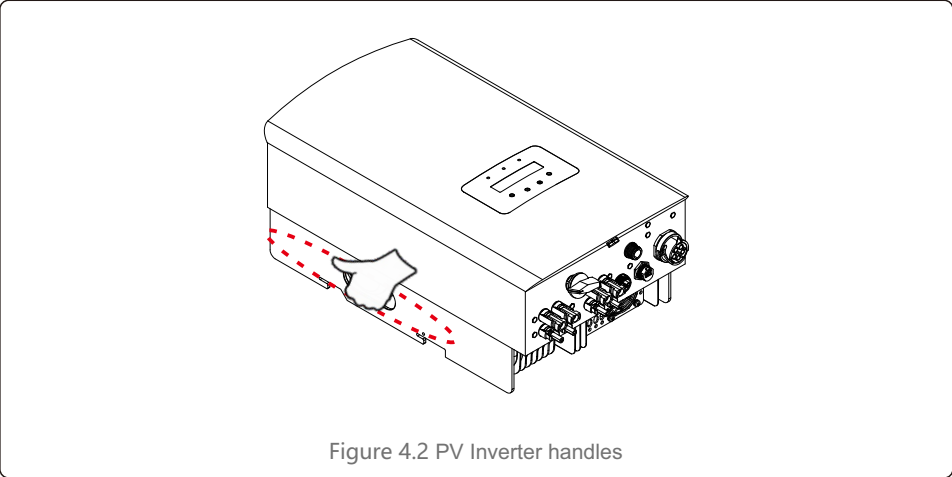

Figure 4.2 PV Inverter handles
- 2.Open the carton, then handle both sides of PV Inverter through the area denoted dotted line. (see figure 4.2).